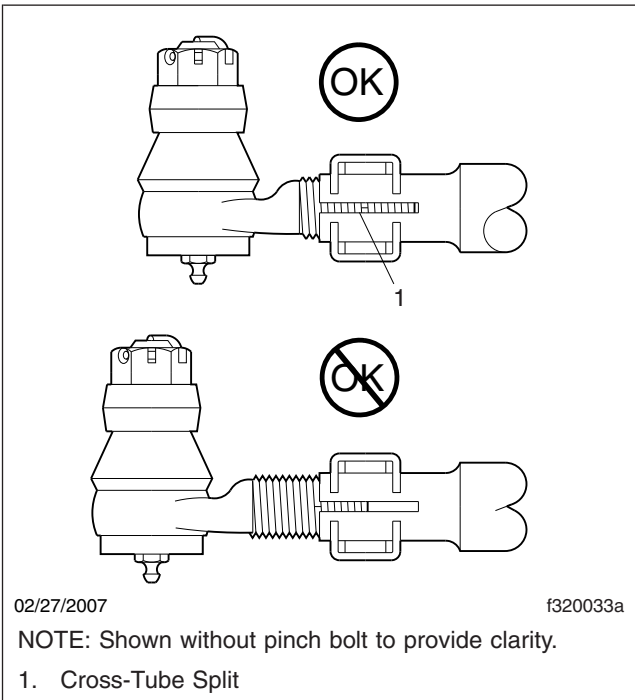

Fig. 3, Tie-Rod End Adjustment
2. The threaded portion of the tie-rod end assembly must be inserted all the way into the cross-tube split for adequate clamping. See Fig. 3. Replace the components if this cannot be done. For instructions, refer to **Group 33** of the *Cascadia™ Workshop Manual*.